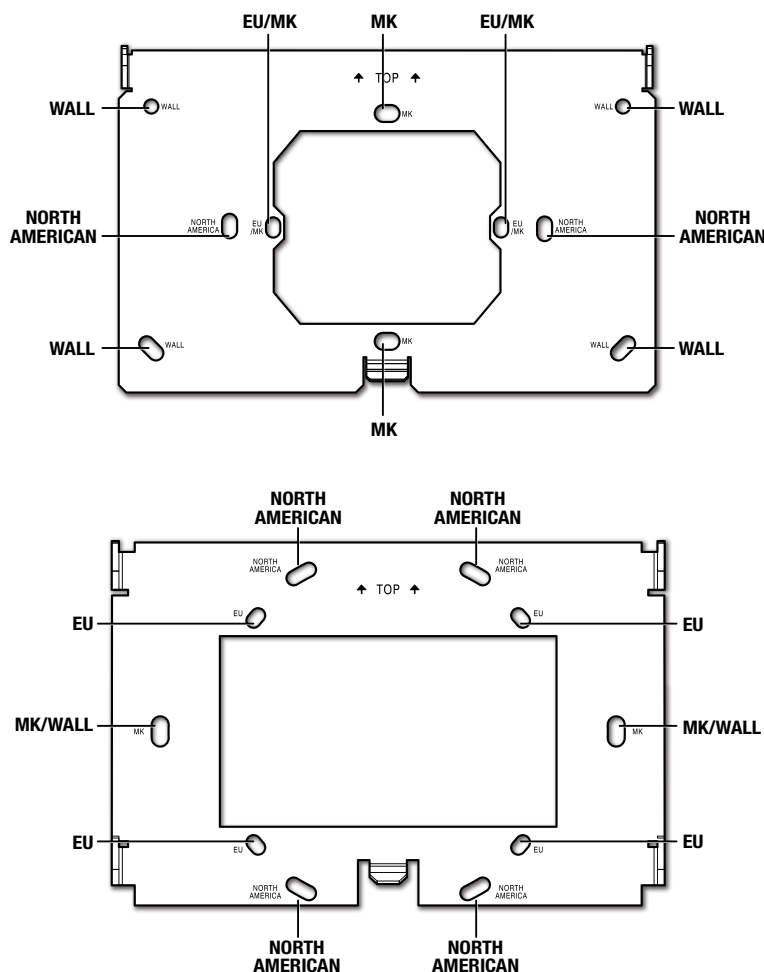

Figure 31. Mounting Plates for TLC Pro 526M (top) and TLC Pro 726M and 1026M (bottom)
5. Click **Release Notes** (see figure 31 ①) for more information about the firmware (optional).
6. Click **Download** (②).
1. Install a junction box or wall box (see figure 31, ①), following the instructions provided by the manufacturer.
2. Make sure you have the correct mounting plate for your TLC and fasten it to the wall with the provided screws (②). Use the mounting holes that are appropriate to the junction box you are using (see figure 31, on the previous page).
2. Remove the gray area in the center of the template, place the template against the wall or furniture in a suitable location, and ensure that it is level. Use the template to mark the hole that is being cut and the location of the MK/Wall slots (see figure 31 on page 30).